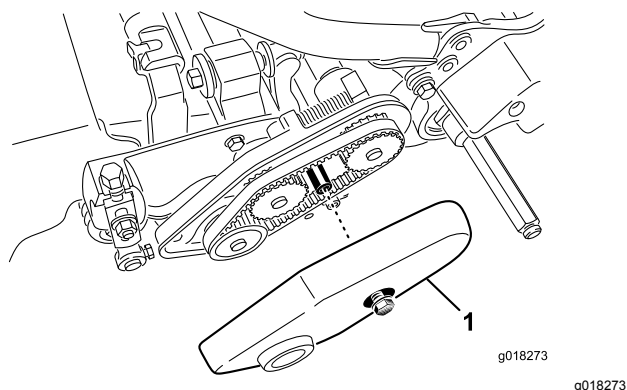

Figure 45
2. Loosen the flange bolt securing the belt cover and remove the belt cover to expose the belt (Figure 45).